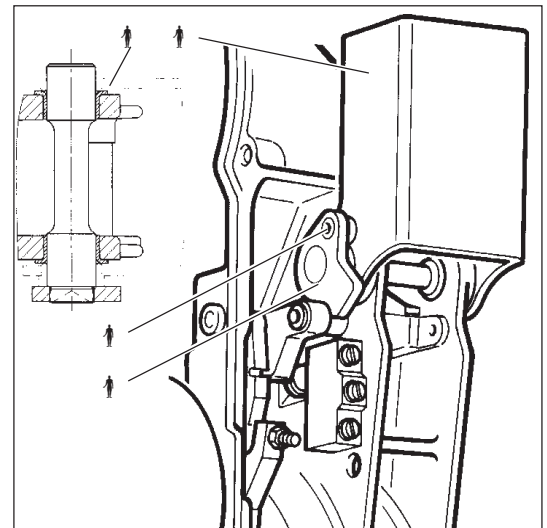

Fig. IV6-1
- a) Align hole of handle root (item 2) to corresponding hole on transmission housing.
- b) Insert switching cam (item 3) through hole on housing and into handle root.
- d) Mount switching cam on handle root with M6x12 hexagon bolt (item 4). Tightening torque: 9.3 Nm Fig. IV6-1